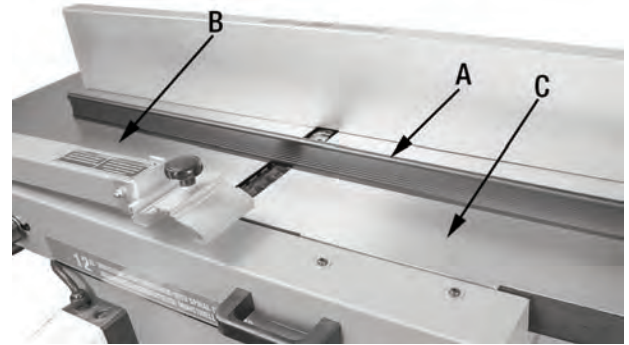
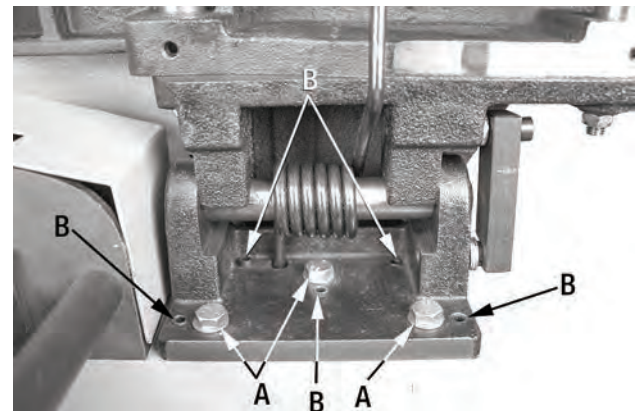

FIGURE 11
FIGURE 12
4. Place a straight edge (A) Fig.11 across the back of the outfeed table (B), extending over the infeed table (C) as shown.
6. If needed, raise the infeed table (C) until it makes contact with the straight edge.
The adjustments consist of adjusting either the five set screws (B) Fig.12 at the back of the machine which adjust the table pitch and tilt at the back, or adjusting the two cap screws that adjust the table at the front.
1. Loosen the three hex. bolts (A) Fig.12 on one side, using a 13mm wrench.
2. Adjust the five set screws (B) in small increments. Rotating the set screws clockwise will raise the table, and counterclockwise will lower it. The set screws on the left will have the most impact on the left side of the table, and the set screws on the right will have the most impact on the right side of the table. The set screw in the middle should be tightened last, to create even tension on the base plate.
3. When adjustment is complete, retighten the three hex. bolts (A).